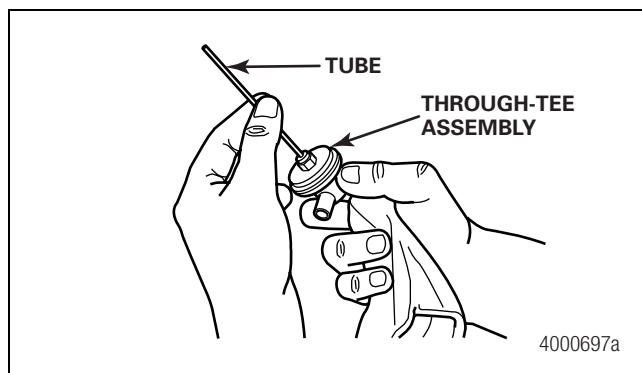

Figure 2.45
2. Use your fingers to check that there is no debris on the tube. Figure 2.45.